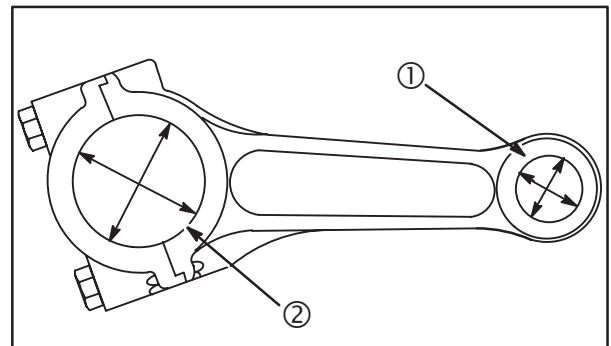

Fig. 7
2. Check connecting rod bearings, **Fig. 7**.